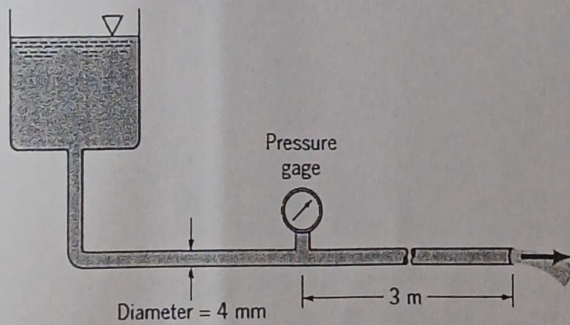

Figure 3
3. A simple flow system to be used for steady flow tests consists of a constant head tank connected to a length of 4-mm diameter tubing, as shown in the figure 3 below. The liquid has a viscosity of 0.015 N/sm^2 a density of 1200 kg/m^3 , and discharges into the atmosphere with a mean velocity of 2 m/s . (a) Verify that the flow will be laminar. (b) Assume the flow is fully developed in the last 3 m of the tube and what is the pressure at the pressure gauge?